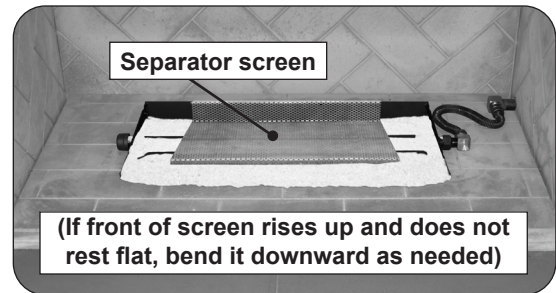
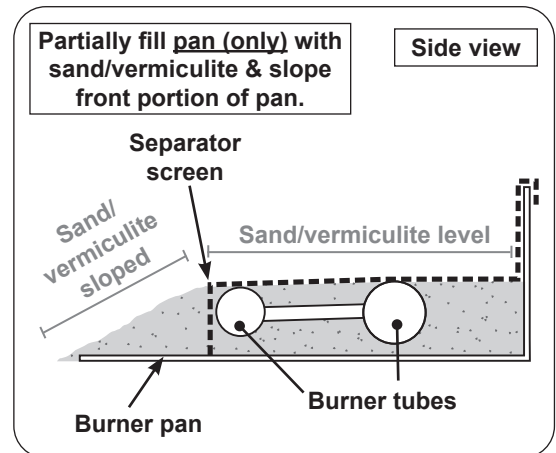

Fig. 12-2 Place screen
Fig. 12-3 Sand/vermiculite & screen detail
- Slope the sand/vermiculite in the front portion of the pan (see Fig. 12-3).
2. Place the separator screen over the sand/vermiculite and pan. The rear of the screen must hook over the rear of the burner pan as shown in Fig. 12-2 and Fig. 12-3.